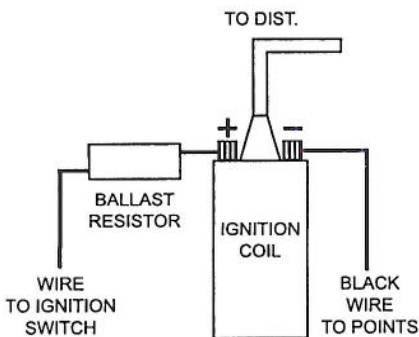

FIGURE 2
2. Attach the black Ignitor II wire to the negative coil terminal. Attach the red Ignitor II wire to the positive coil terminal. (See Figure 2)